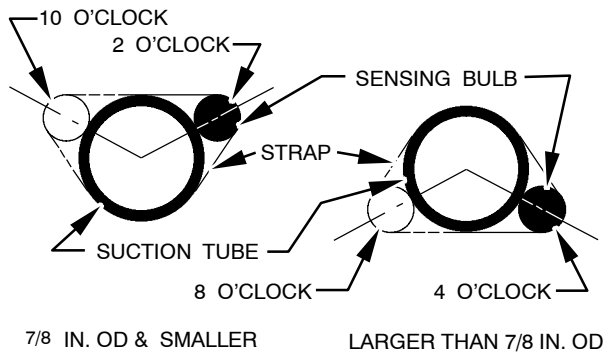

Fig. 2 - Position of Sensing Bulb
7. Attach and secure TXV sensing bulb to horizontal section of vapor/suction line using clamps provided (see Fig. 1G). Optimal positioning of sensing bulb can be noted in Fig. 2 Positioning of Sensing Bulb. Insulate sensing bulb with insulation tape.